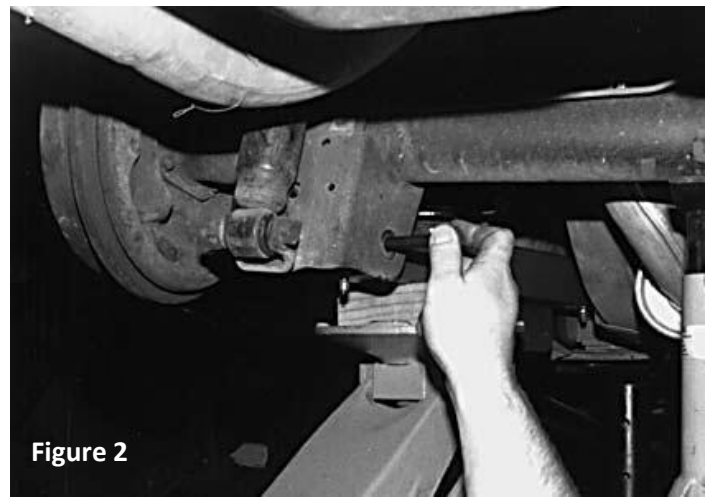

Figure 2
5. Lift the rear of the trailing arm with the floor jack so the bolt can be removed (see **Figure 2**). Remember, do one side at a time.